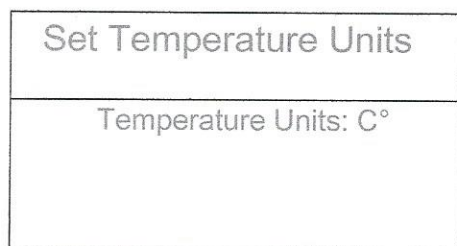

Figure 25
2. Using the SCROLL DOWN key, move down to option 3: "Set Temperature Units". Press ENTER again to move into the "Set Temperature Units" screen. SEE FIGURE 25.